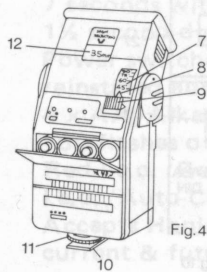

Fig.4
2. Take 4 AA Cells (Alkaline are preferred) and load them in one after another observing the polarity signs on the lid contacts or observing the arrangement in Figure 4.